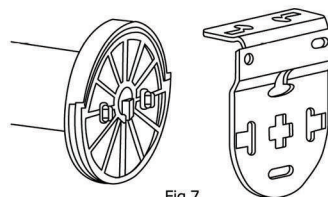

Fig.7
3. With the idle end in place offer the control end to the opposite bracket and secure the blind in place ensuring that the centre lug has dropped into the slot on the bracket. (Fig.7)